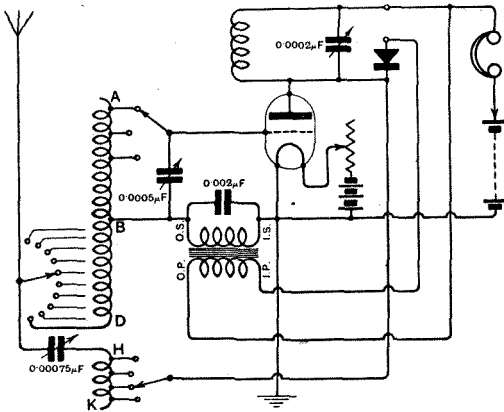
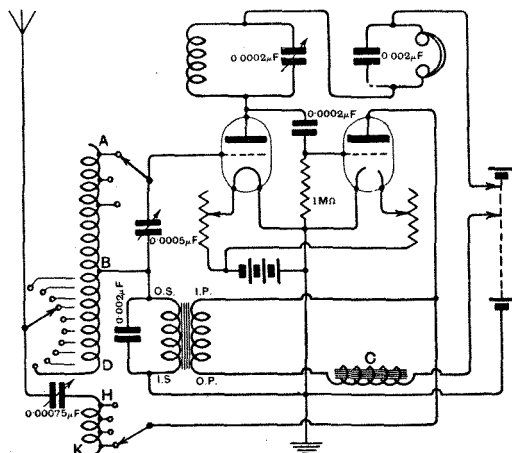

Fig. 1. A reflex Reinartz receiver employing a crystal detector.
Fig. 2. In this reflex Reinartz receiver a valve detector is used.
The aerial coil (BD) is a continuation of the grid coil (AB). For tuning up to about 500 metres 50 turns of No. 20 D.C.C. wire are wound on a 3 in. diameter former, tapings being provided for by baring a short length of wire and twisting into a loop, to which the lead to the contact stud is subsequently soldered. Tapping points are arranged for after 10, 20 and 50 turns have been wound on, the final point being B (Fig. 1), and this is taken to a terminal on the panel on which the completed coil is mounted. The winding is continued past B for 10 more turns, tapings being taken from each turn. The reaction coil is then wound on the same former, starting immediately after the finish of the aerial coil. If the one-valve and crystal circuit is used (Fig. 1) the reaction coil is wound in the same direction as the aerial coil, but if the two valves are to be employed (Fig. 2) its direction is reversed, or else the connections of the reaction coil are made in the opposite way to that shown in the diagram.
Two circuits were tried out, the first (Fig. 1) using crystal rectification and the second (Fig. 2) using a valve detector, both operating successfully. The latter circuit, using two valves, gave trouble at first owing to oscillations being set up which were just within audible frequency, and seemed very similar to the Armstrong oscillations in the super-regenerative circuit. These were apparently due to the winding of the L.F. transformer in the grid circuit of the first valve shunted by a condenser, and that in the plate circuit of the second valve, and were eliminated by careful design of the choke (C), Fig. 2.
In the crystal detector circuit (Fig. 1) no condenser should be used across the primary